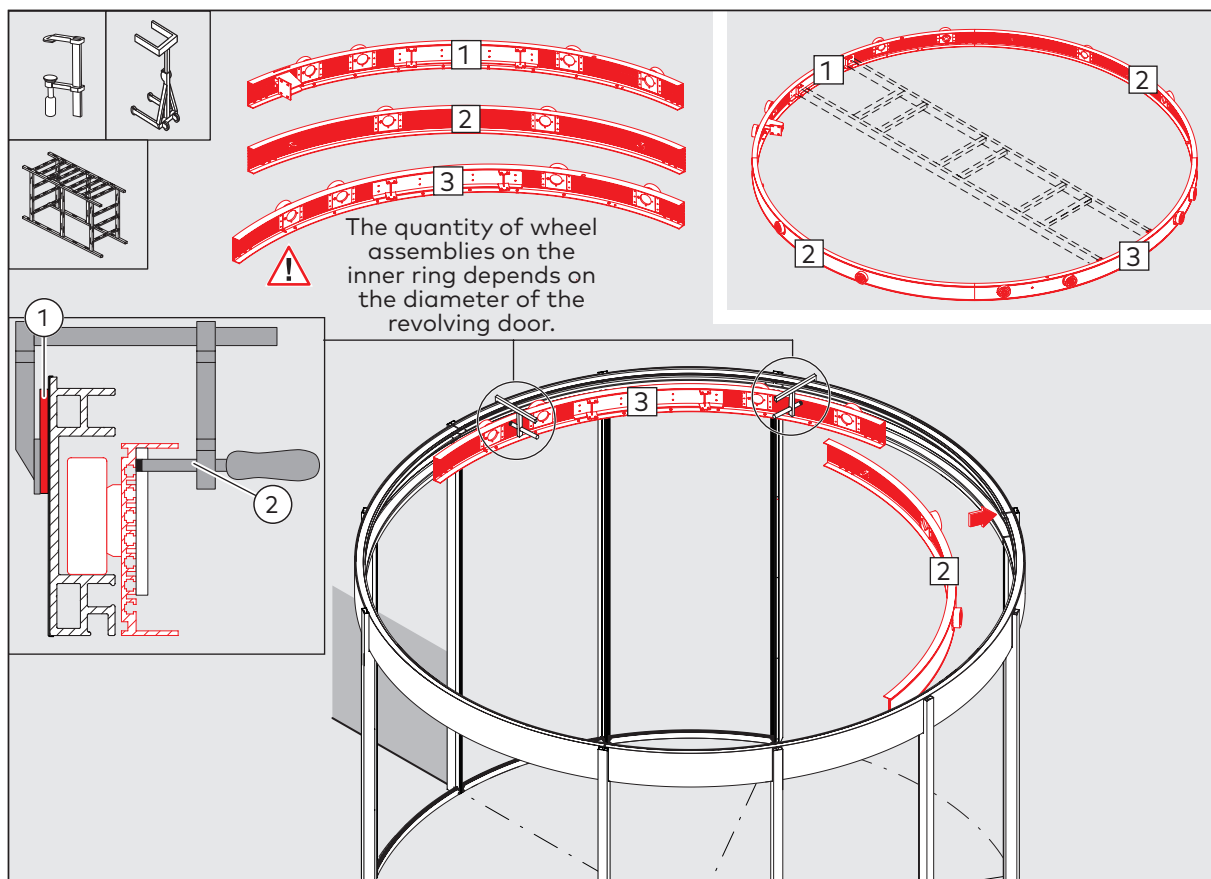

Fig. 38 Mounting the lower ceiling ring
1. Use bar clamps (Fig. 38/2) to fix the pieces of the ceiling ring to the track rail. Protect the canopy against scratches by placing the wooden blocks
(Fig. 38/1) between the canopy and the bar clamps.